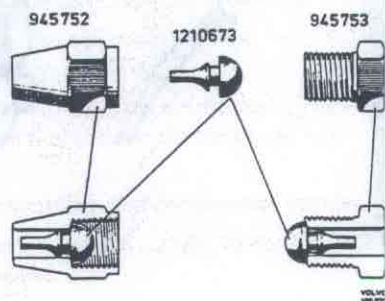

Fig. 46-32. Sealing nipples
4. Remove the shock absorber from its lower attachment. Disconnect the brake line from the wheel cylinder. Plug the line with a sealing nipple, see Fig. 46-32. Volvo nos. 245752 + 1210673.